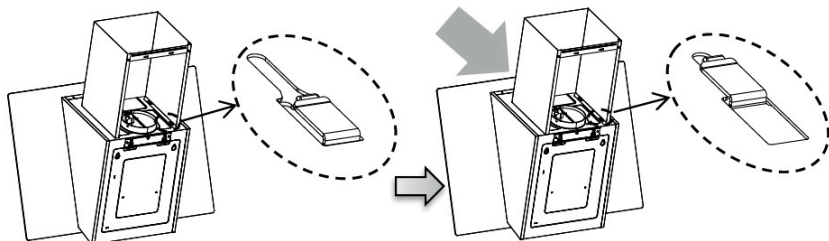

Fig. 8
16. Place the lower as well as the upper chimney part. Attach the lower chimney part to the lower chimney part holder as shown in Fig. 8. Lift the upper part up to the required height and attach the upper chimney part to the upper chimney part holder as shown in Fig. 9.